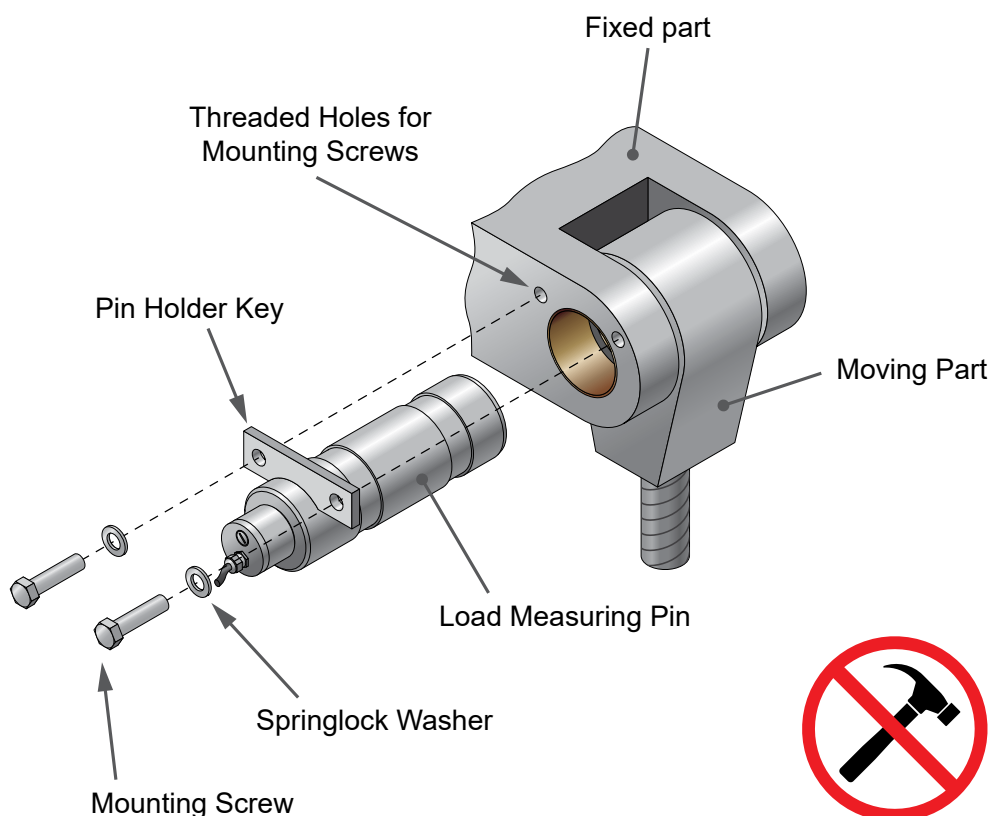

Fig.2-4 Positioning of the load measuring pin
3. Position the load measuring pin facing the bores in which it will be seated (see Fig.2-4). Turn it so that the mortise for receiving the pin holder key is facing upward and perpendicular to the applied force.
4. Manually slide the load measuring pin into its seat (*see Fig.2-4*), until the mortise for receiving the pin holder key reaches the lateral support. This inserting of the load measuring pin should be done without the use of any tool. If it is impossible to slide the pin in, check the alignment (concentricity and axially) of the elements and machine again, if necessary.
6. Place the two fastening screws, fitted with their washers, into the holes of the pin holder key (*see Fig.2-4*), and screw them into the previously threaded holes, applying the screwing torque specified in table (*see Fig.2-3*).